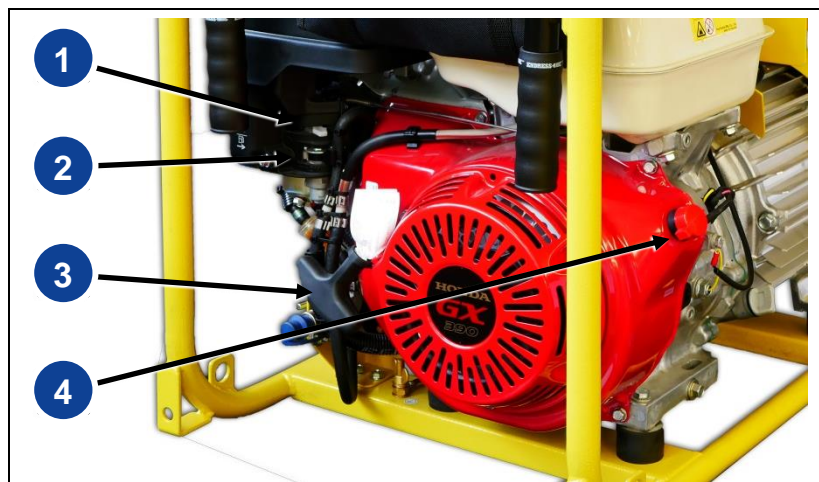

Fig. 4-2: A hand start
1. Push the choke lever (Fig. 4-2-**1**) to the far left (completely for a cold engine / appropriately less for a warm engine).
2. Push the lever on the fuel valve (Fig. 4-2-**2**) up to the right stop.
3. Place the engine switch (Fig. 4-2-**4**) in Pos. "I".
4. Motor - strongly pull the cable pull starter hand grip (Fig. 4-2-**3**).